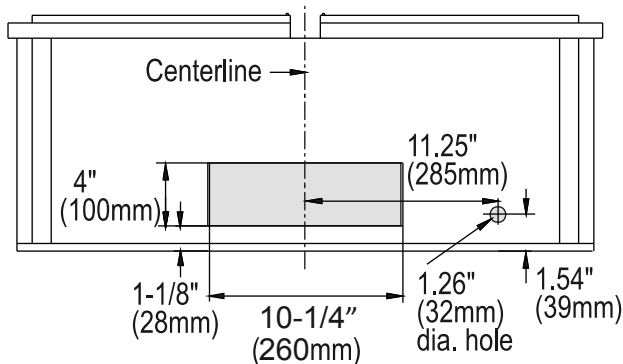
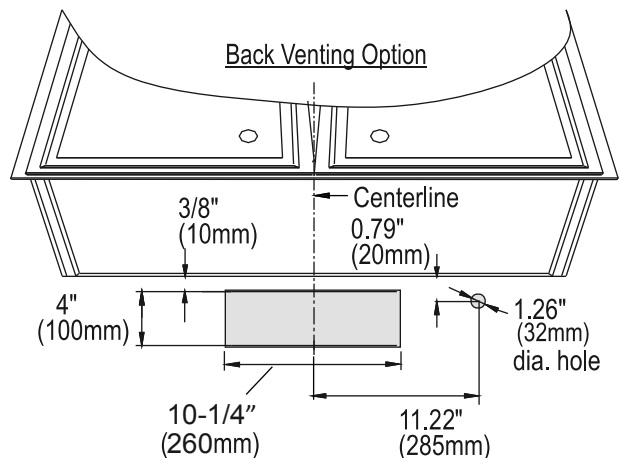

Fig.3
Fig.4
A. Determine if your existing venting system is top venting or back venting, and ensure that the openings in the cabinet or wall for the damper and for power access are in appropriate locations and are of appropriate sizes, as per Fig 3. if it is top vent or Fig. 4 if it is back vent.
B. If this is a new installation, choose the venting method that suits your needs. Cut out openings for the damper and for power access in the cabinet bottom or exterior wall. Following Fig. 3 if it going to be a top vent of Fig. 4 if it is going to be a back vent.